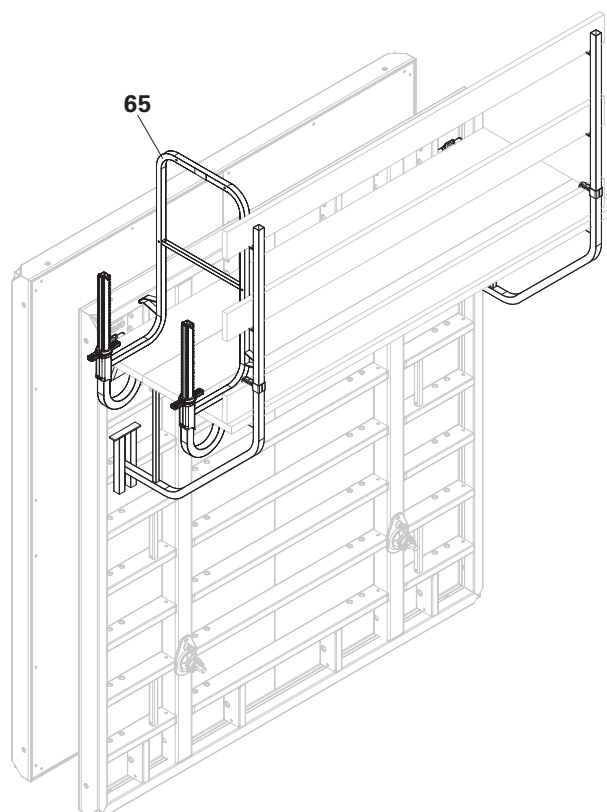

Fig. A7.09
4. Attach side protection, e.g. End Guardrail Frame 55 (65). (Fig. A7.09)